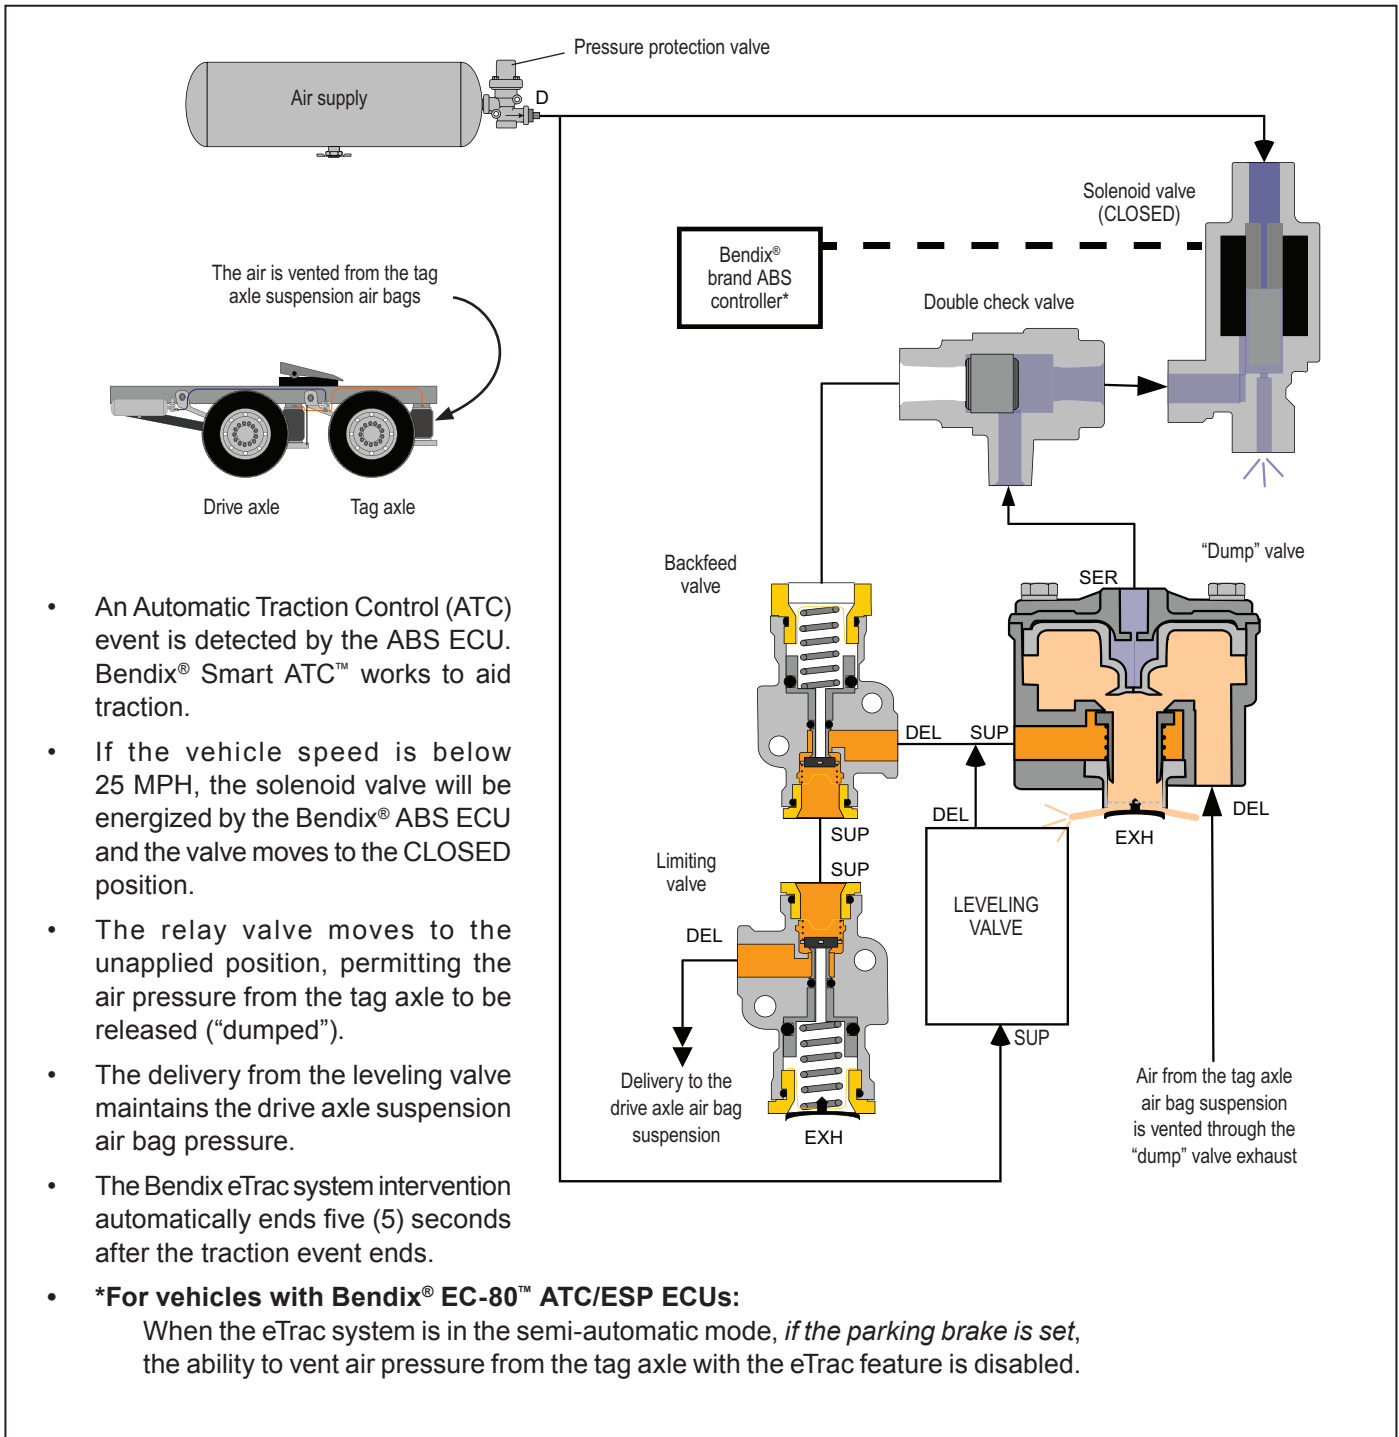

FIGURE 4 - BENDIX® eTrac™ SYSTEM ACTIVE MODE
- The **Active Mode** occurs when the vehicle encounters road conditions where automatic traction control (ATC) is activated. In addition to the actions of the Bendix® Smart ATC system, the Bendix® eTrac™ system automatically vents ("dumps") air pressure from the tag axle air bags. *See Figure 4.*
During the Bendix eTrac system *Active Mode*, the relay valve isolates the rest of the air suspension system from the tag axle suspension air bags and “dumps” the air pressure from them. The air is exhausted through the relay’s exhaust port. *See Figure 4.*
In the *Active Mode*, the control air from the solenoid valve to the “dump” valve ends, and the air is vented back — through the double-check valve — and out of the solenoid valve exhaust. *See Figure 4.*
Figure 4 shows the Bendix eTrac system in its *Active Mode* where the “dump” valve controls the delivery of air to the rear axle suspension air bags. This diagram is for both automatic and semi-automatic applications.